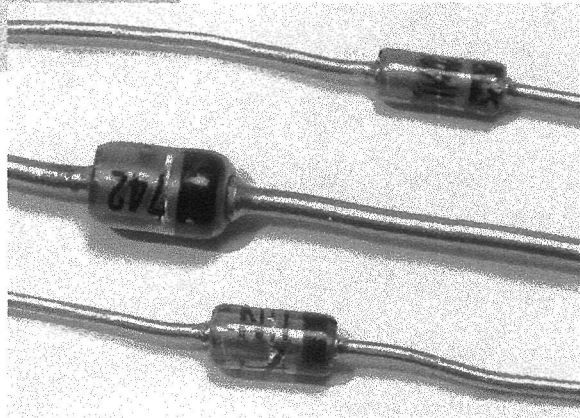

Figure 12.4
- Diodes: glass or plastic cylinders, smaller and less colorful than resistors, usually marked with one stripe (see Figure 12.4).